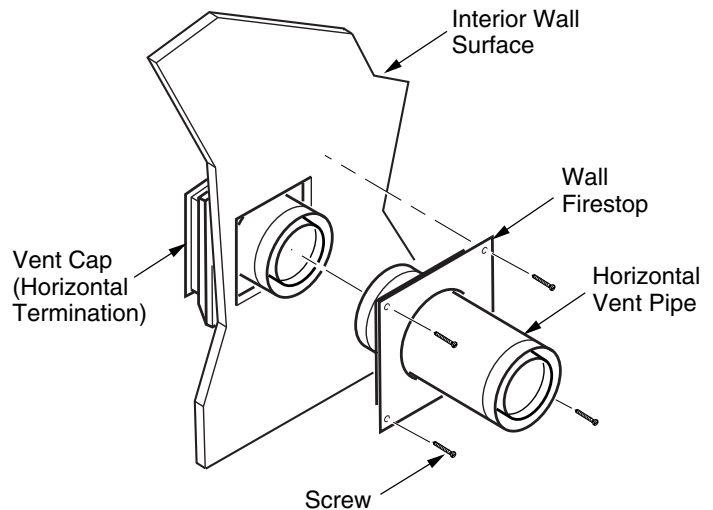

Figure 12 - Connecting Vent Cap with Horizontal Vent Pipe
7. **Combustible Exterior Wall Only:** Slide the wall firestop over the vent pipe before connecting horizontal run to vent cap (see Figure 12).
9. **Combustible Exterior Wall Only:** Slide wall firestop against interior wall surface and attach with screws provided (see Figure 12). See Figure 13 for horizontal termination details.